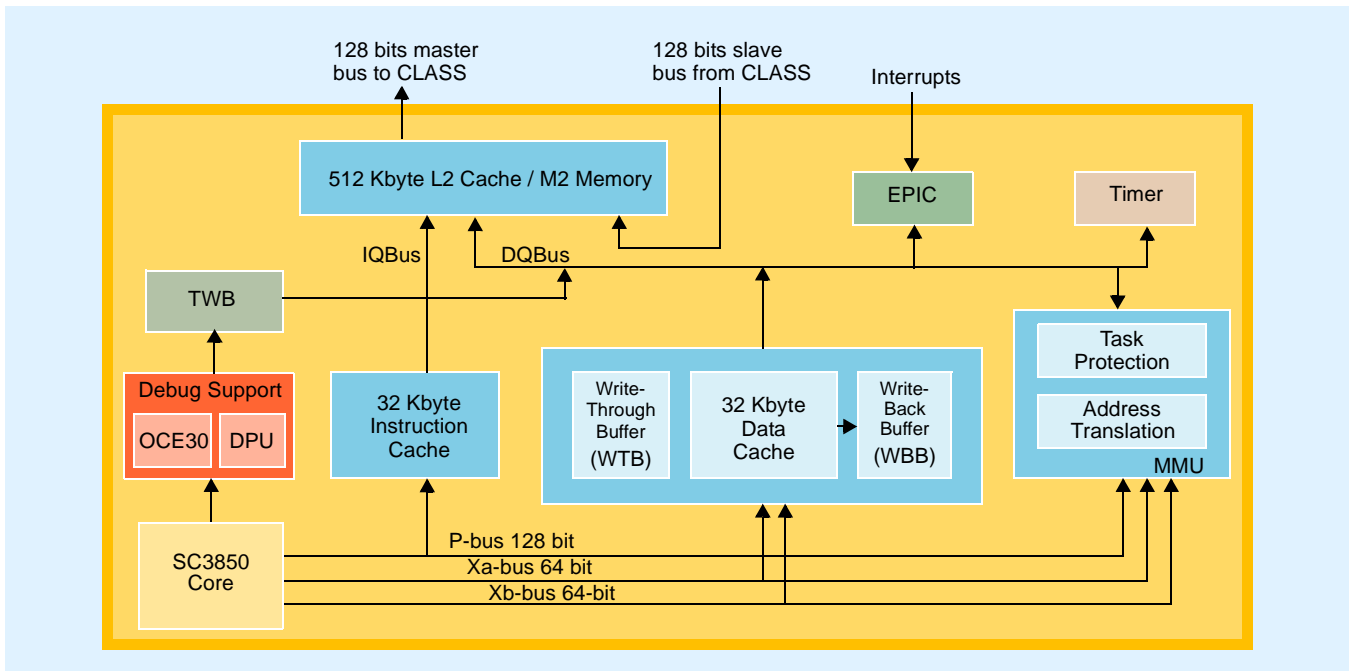

Figure 2. StarCore SC3850 DSP Subsystem Block Diagram
- Figure 2. StarCore SC3850 DSP Subsystem Block Diagram . . . . . 3